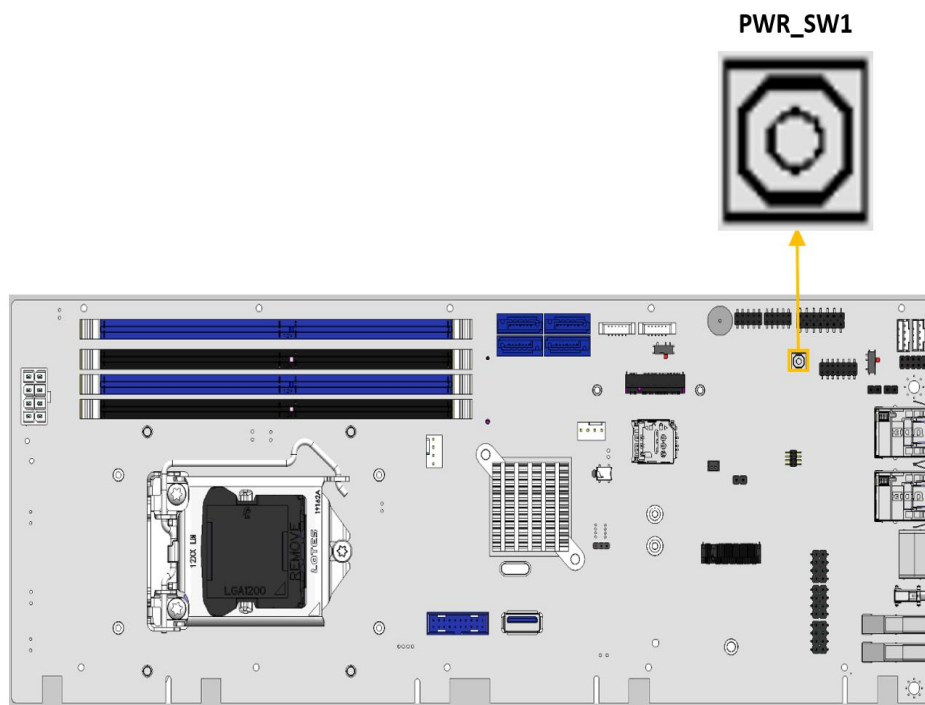

Figure 3-17: Power Button Location
- CN Location:** See Figure 3-17